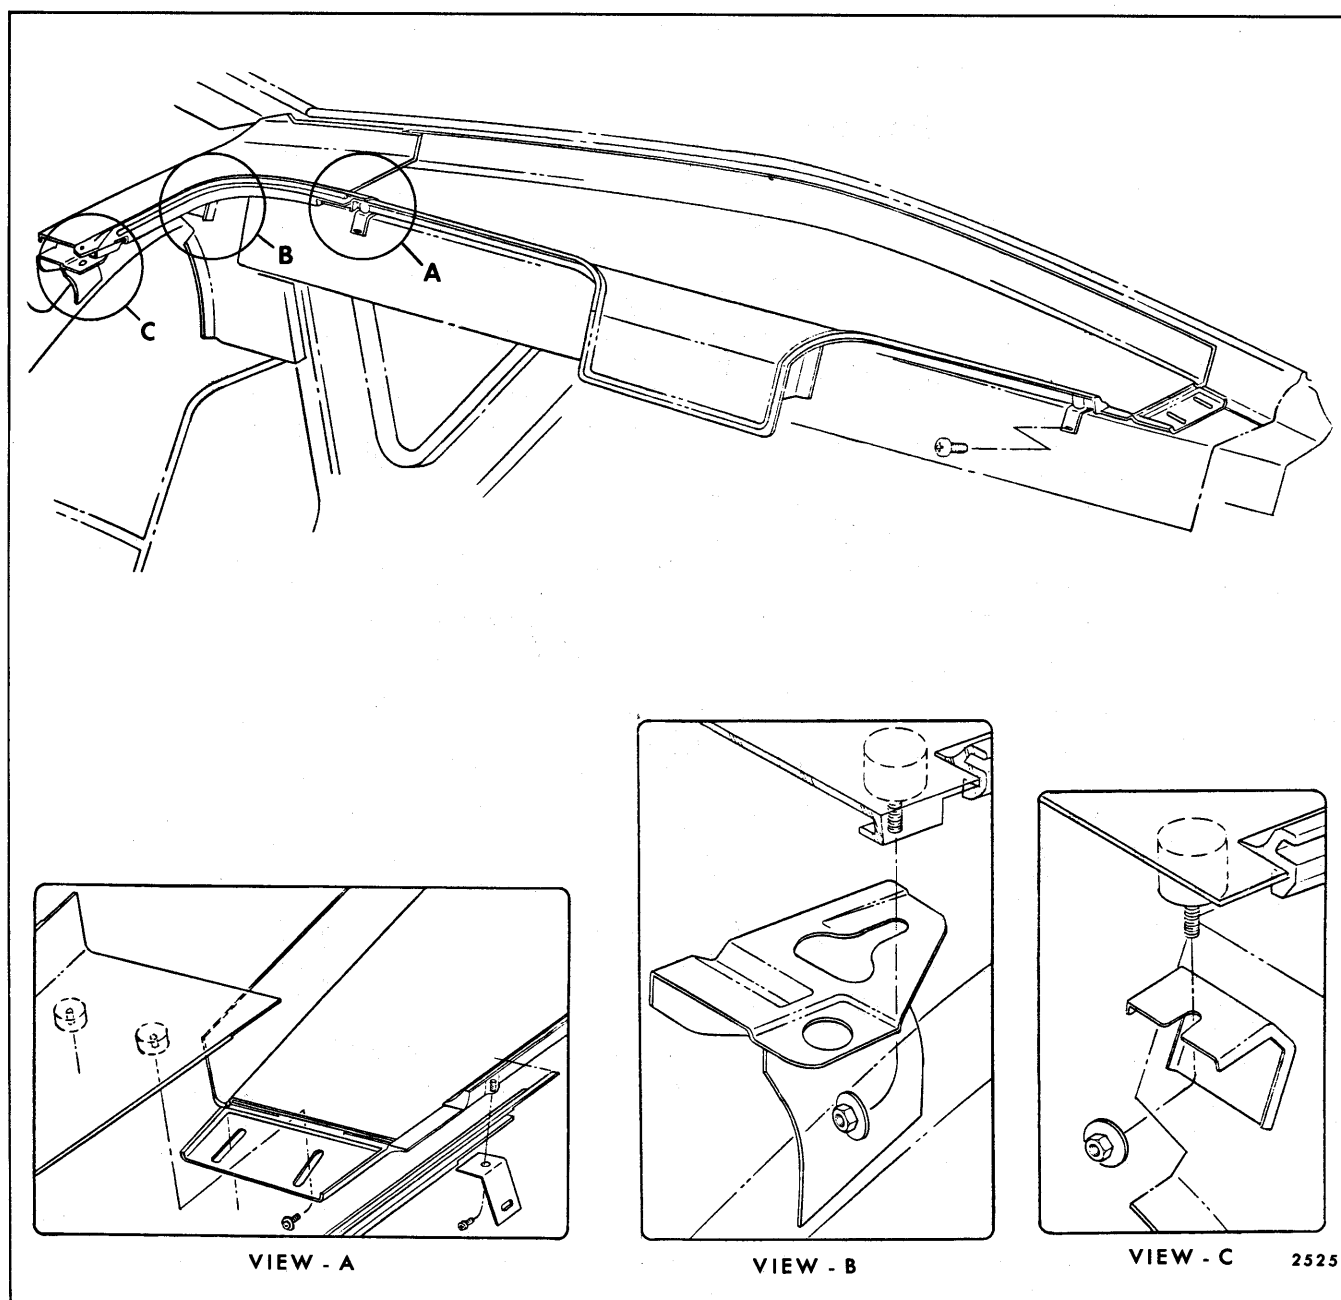
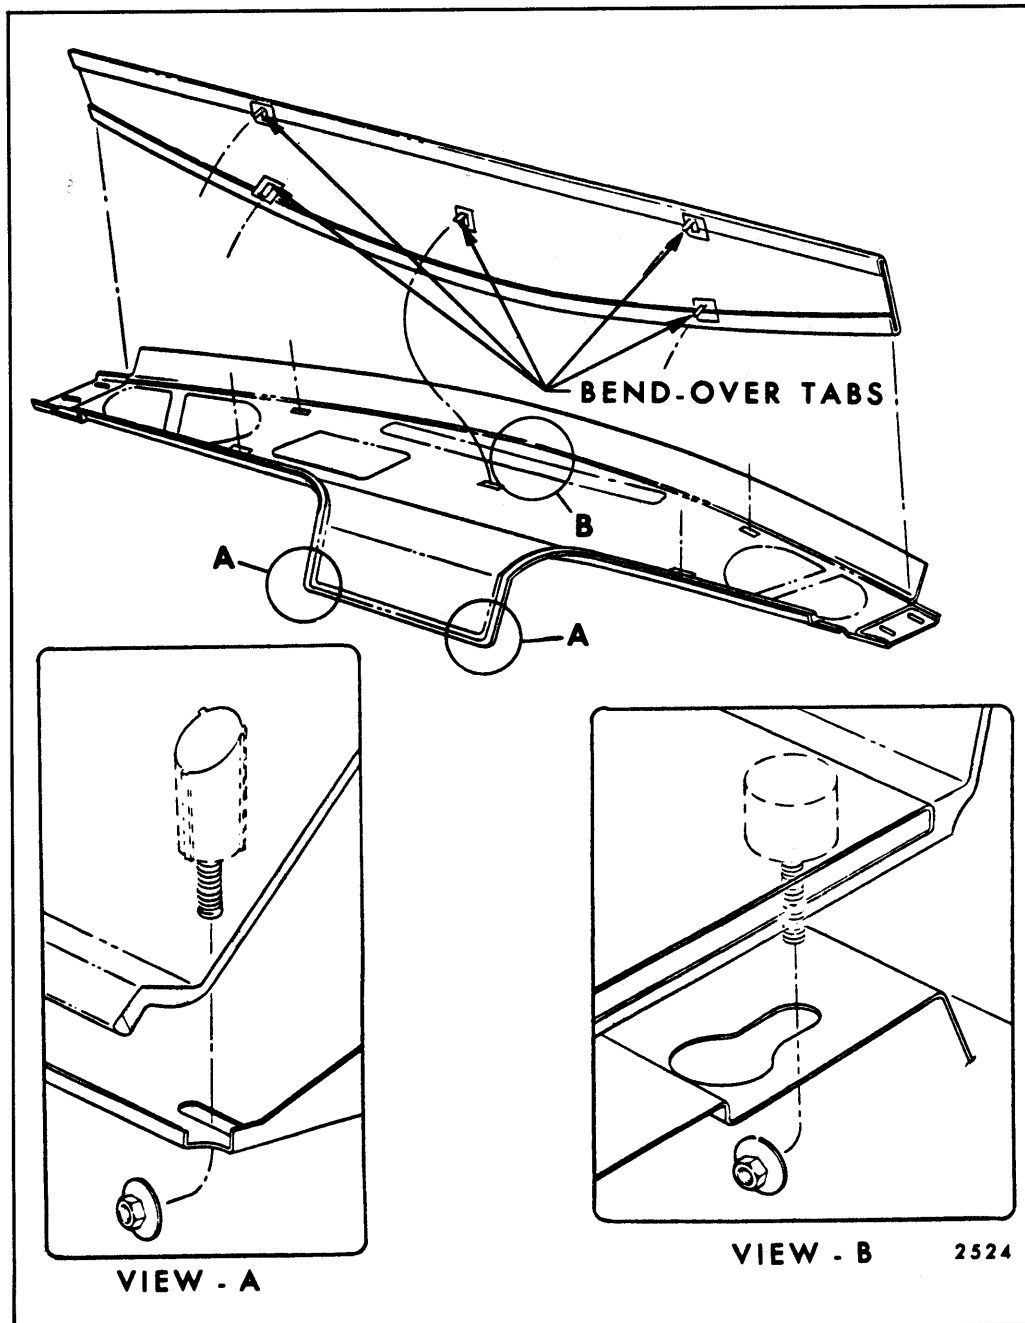

Fig. 14-36—Compartment Shelf Trim Panel - Cadillac "E" Styles
Fig. 14-37—Compartment Shelf Center Trim Panel -
4. Remove rear compartment side panel attaching screws (View "A", Fig. 14-36). Loosen compartment shelf to metal foundation nuts as indicated in View "C". Remove center section attaching nuts (View "A & B", Fig. 14-37 and View "B", Fig. 14-36).
6. To remove the center trim panel, bend metal tabs (Fig. 14-37) to straight down position and detach from center base panel.